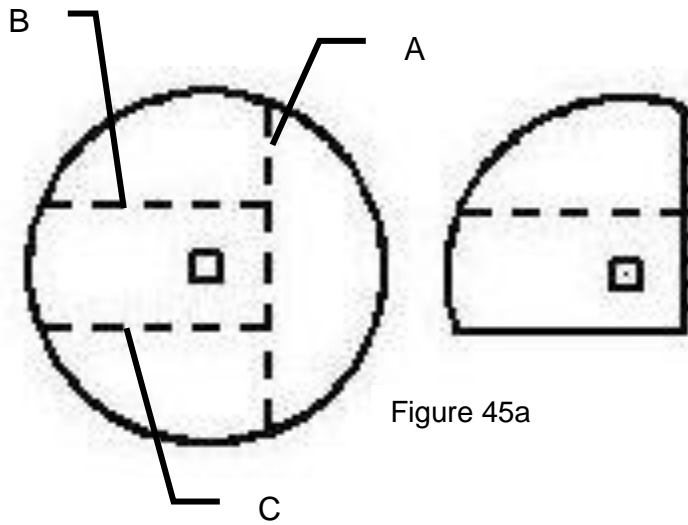

Figure 45a
1. The moisture discs (006-4641H) will both need to be cut on line A. (Figure 45a) One disc will need to be cut on line B and one disc on line C.